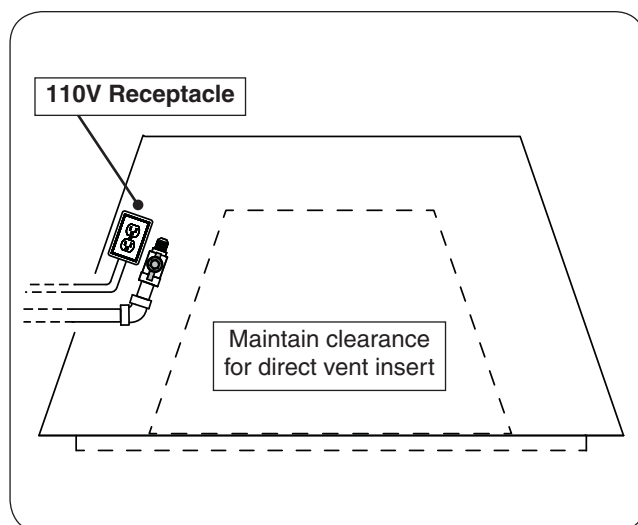

Fig. 23-2 Install electrical
1. Wire the receptacle into the left side of the fireplace (see Fig 23-2).